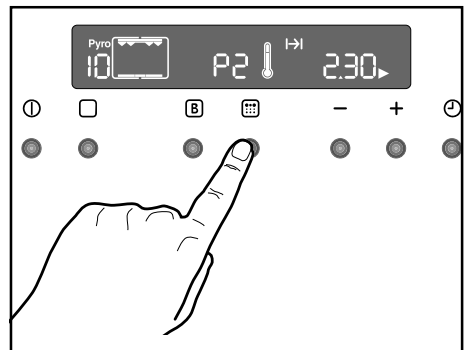

Fig. 20
- To confirm which pyrolytic function you desire, press button . The writing will stop flashing and the symbol  will disappear, the acoustic signal will stop, the oven lamp will switch off and the pyrolytic cleaning cycle starts (Fig. 20).